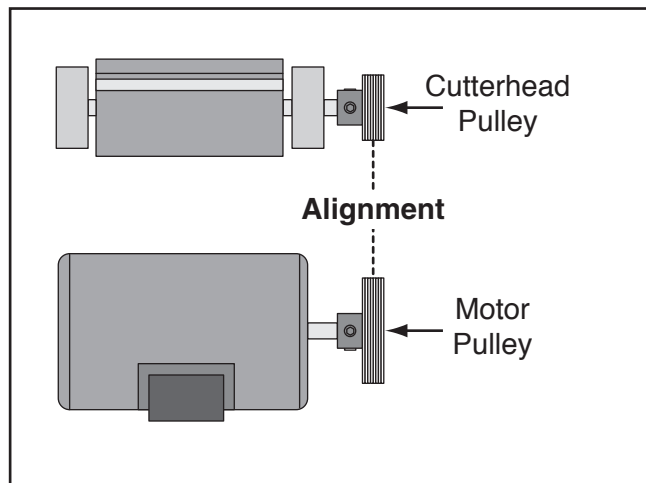

Figure 15. Pulleys aligned.
19. Visually check alignment of cutterhead and motor pulleys, as illustrated in **Figure 15**.